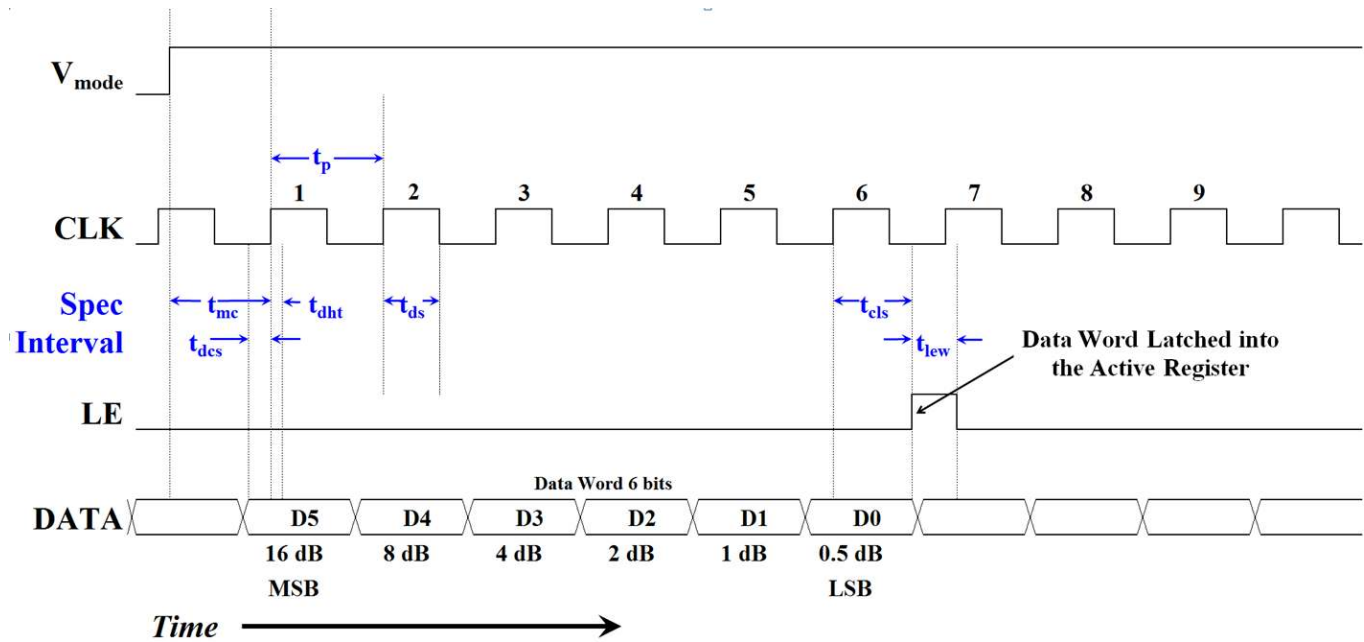

Figure 2 - Serial Register Timing Diagram
The F1975 can be programmed via the serial port on the rising edge of Latch Enable (LE). Refer to Figure 2.